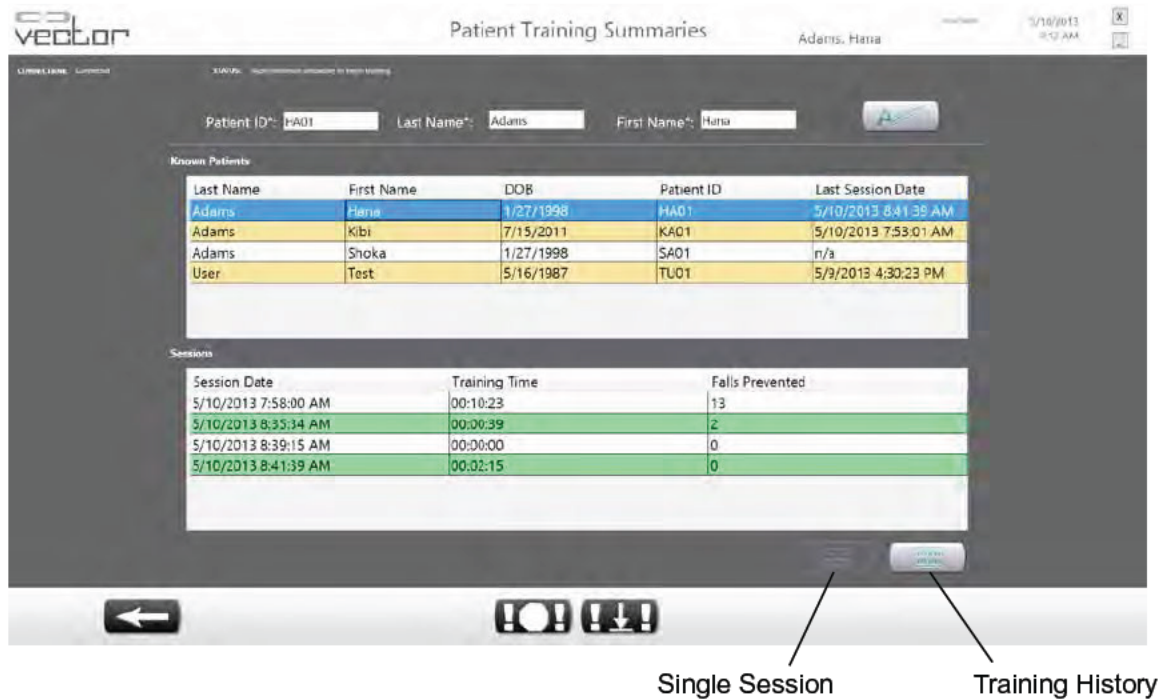

Figure 6-3: Patient Summaries Menu Screen
1. Select a patient from the "Known Patients" list, by clicking on the name. See Figure 6-3.
2. Once a patient has been selected a list of their training sessions will appear in the "Sessions" list. See Figure 6-3.
3. To view data from a single training session select the session date from the "Sessions" list and press the Single Session button. See Figure 6-3.